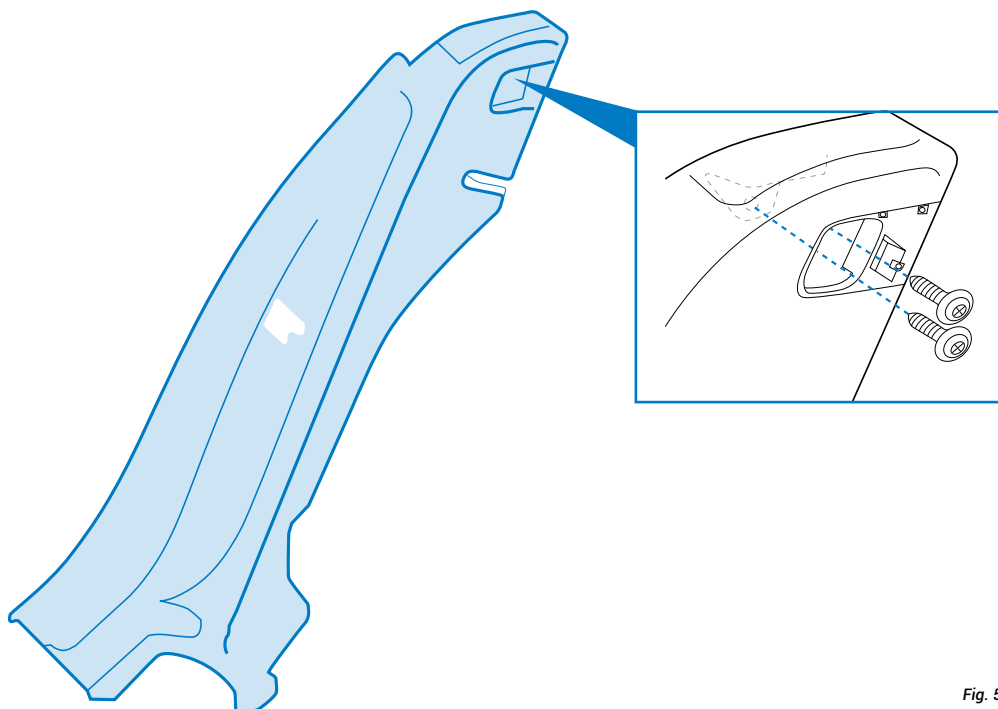

Fig. 5
6.2.3 Remove the two screws (Fig. 5).